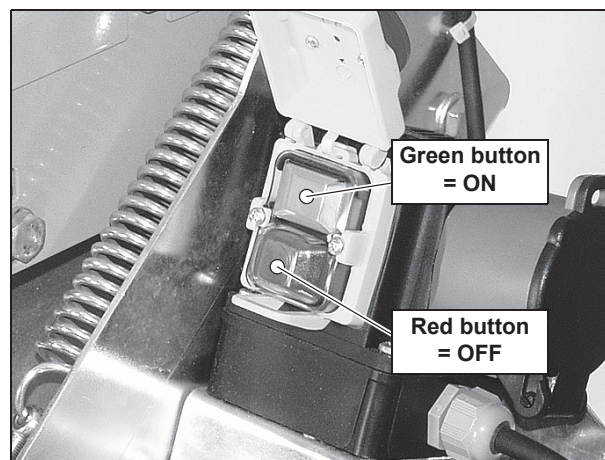

Fig. 3.7 ON and OFF button for starting and stopping the saw
- To switch the pump and motor ON, open the yellow lid with the red emergency stop button and press the green button (fig. 3.7).
- Push the red button (fig. 3.7) to stop the saw.